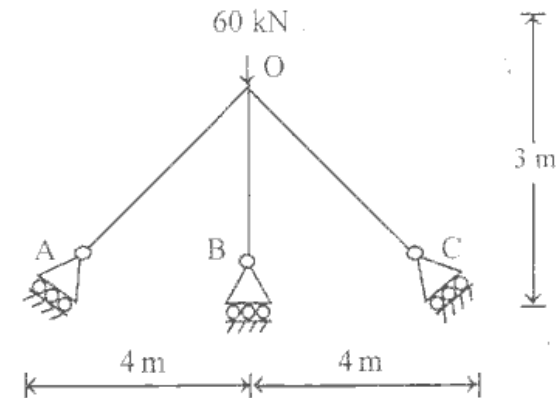

Fig.5
5. Analyse the truss Shown in Fig.5 by stiffness matrix method. Area of bar = 30 cm^2 .